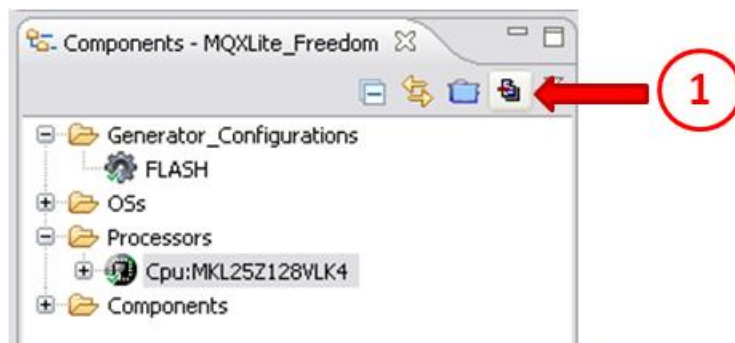

Figure 17. Generating Processor Expert code
2. After the changes it is possible to generate code using Processor Expert. To do this click in the generate code button located in the up right corner of the “Components” window. Figure 17 illustrates this.